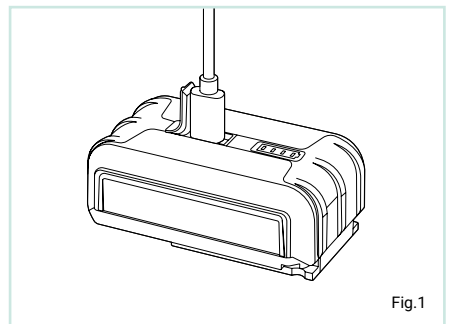

Fig.1
- Insert the charging cable (USB-C) into the charging port on the battery pack (Fig.1).